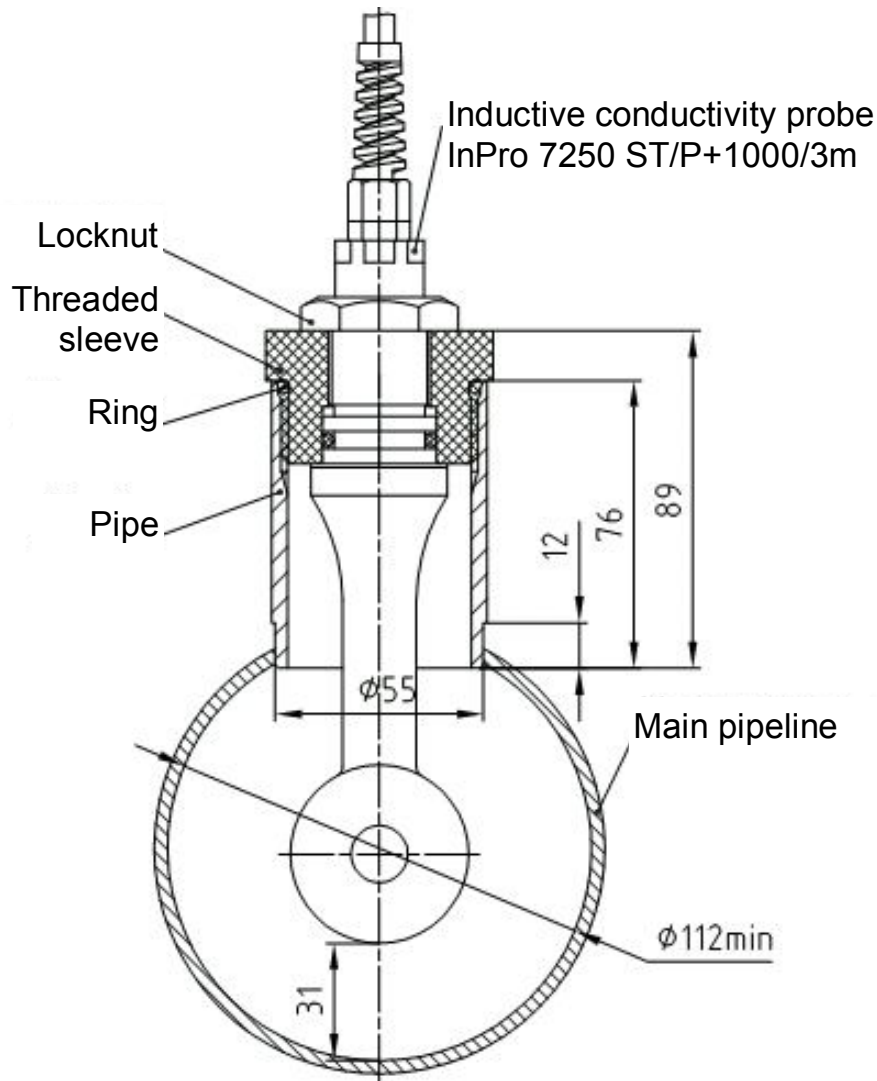

Fig.2.5 – Installation of the conductivity probe in a main pipeline
2.3.4.2 Installation of the conductivity probe in a main pipeline is as shown in Fig.2.5. Use the BP56.02.320 tie-in kit supplied upon agreement with the client.
The pipe should be welded vertically into the pipeline as shown in Fig. 2.5.